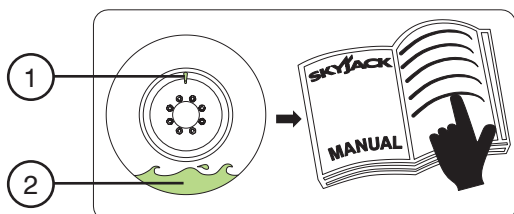

Figure 3-2. Tire Sealant Label
- When depressurizing, inflating or checking tire pressure, ensure that valve stem is at the top to prevent sealant from entering the stem (refer to Figure 3-2).